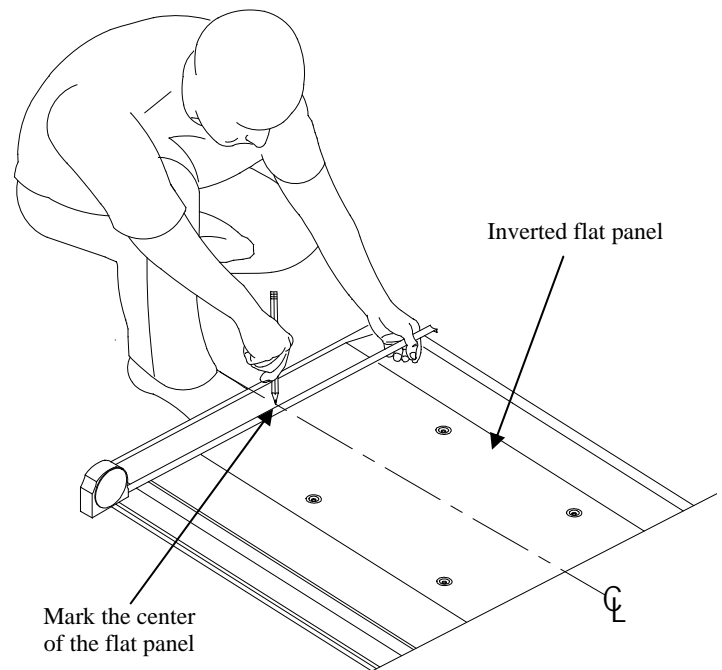

Figure 5
2. Using a pencil lightly mark the center of your flat panel (Figure 5).